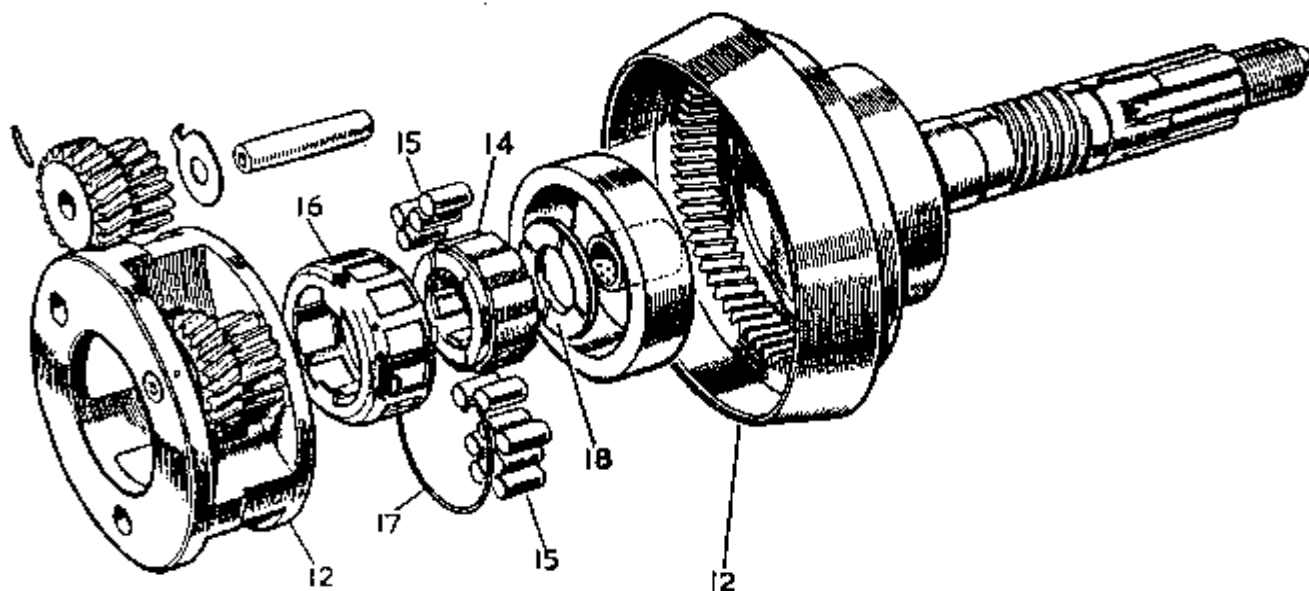

Fig. G.7. Components of overdrive rear casing
Except for number 6 above, the previous tech articles have covered all the listed problems. However, this article approaches the problem from a different perspective - clutch slip when driving in Normal, not OD. The clutch that the factory manual and this article refers to is the uni-directional clutch located in the rear housing of the OD unit. See Fig. G.7.
Most of the time the problem will be with the pressed steel bearing cage (item #16 - outer casing in Fig. G.7.) not able to rotate in relation to item #14, the ratchet part of the clutch. This can be caused by a number of factors:
4. The torsion spring (item #17 - securing clip in Fig. G.7.) may be disconnected or broken. This spring should have a 90 degree bend outward about 1/8" long at one end and a 90 degree bend inward about 3/8" long at the other. This spring places a slight pre-load on the cylindrical rollers to ensure that the clutch is engaged.